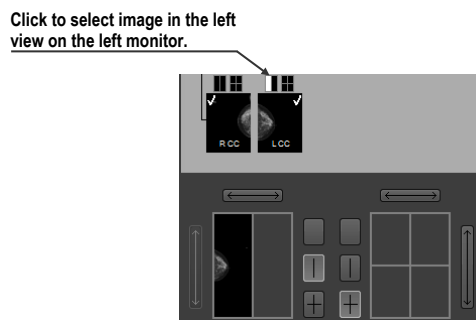

Figure 481 – Selecting an image to view using the rectangle indicator
- Or, click the desired rectangle in the screen position indicator representing the view in the working area (see Figure 481). The image is displayed in the appropriate view in the mammography workspace on the left or right monitor.